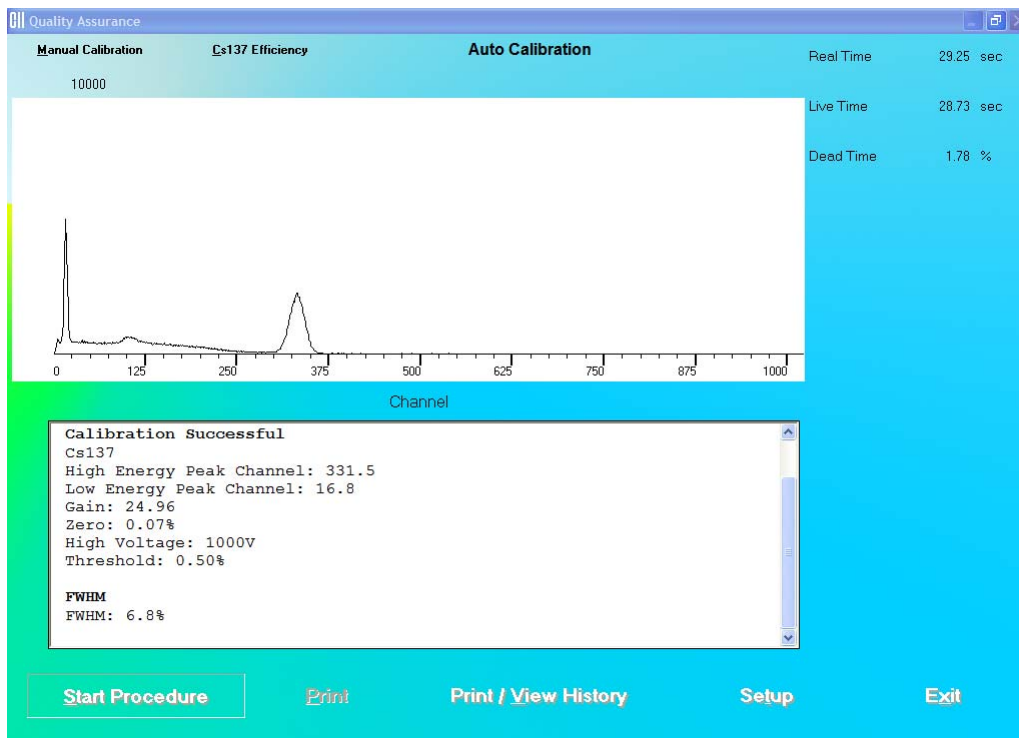

Figure 5-5
- After calibration is completed, the results will display “Calibration Successful” as shown in Figure 5-5 below.